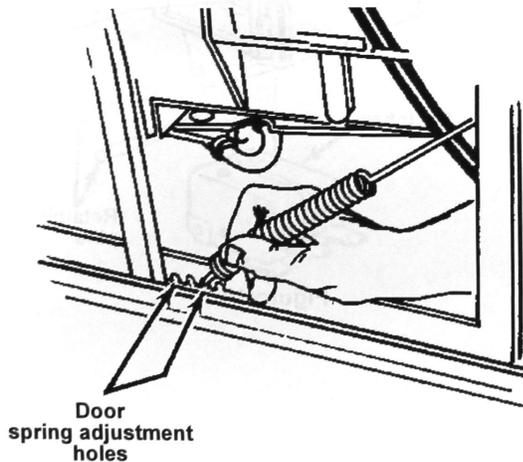

Figure 2
3. Move both door springs to the hole with the least tension possible as shown in Figure 2. Note the old location. This will keep the door from coming up while making the repair.